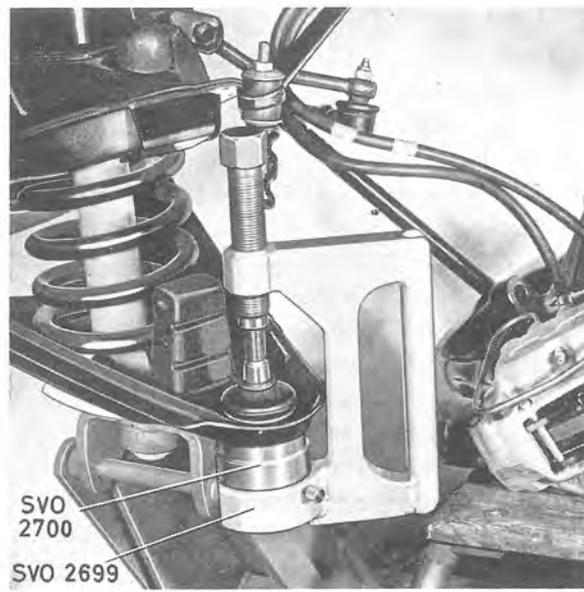

Fig. 6-25. Removing the lower ball joint
5. Press the ball joint out of the lower wishbone with press tool SVO 2699 and sleeve SVO 2700, see Fig. 6-25.
2. Press the ball joints in the wishbone with tools SVO 2699+2701+2703, see Fig. 6-25. If the ball joint is fitted at a slant turn the tool 180° and press the ball joint in correctly. The joint must not be loose in the wishbone.